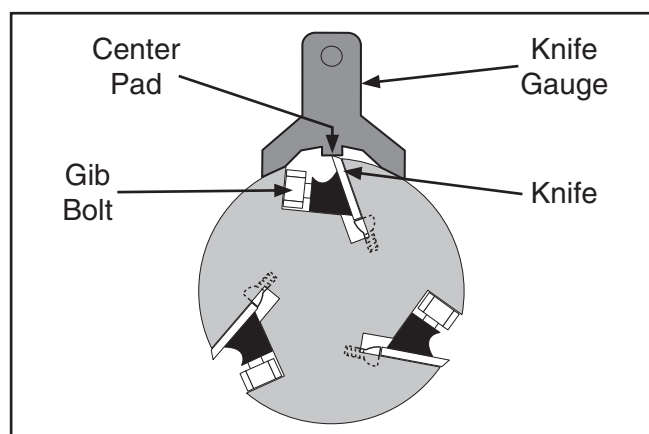

Figure 31. Knife-setting jig correctly positioned over knife.
4. Loosen cutterhead gib bolts until knife is completely loose, then position knife-setting jig over knife so that knife edge is directly under center pad, as shown in **Figure 31**.